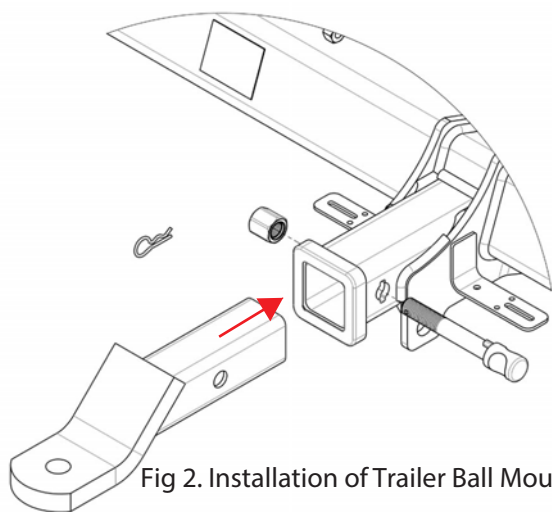

Fig 2. Installation of Trailer Ball Mount
**Figs 2 remove torx
Insert Trailer Ball Mount (TBM) into towbar HITCHBOX, aligning hole in TBM SHANK with hole in HITCHBOX (Fig 2).